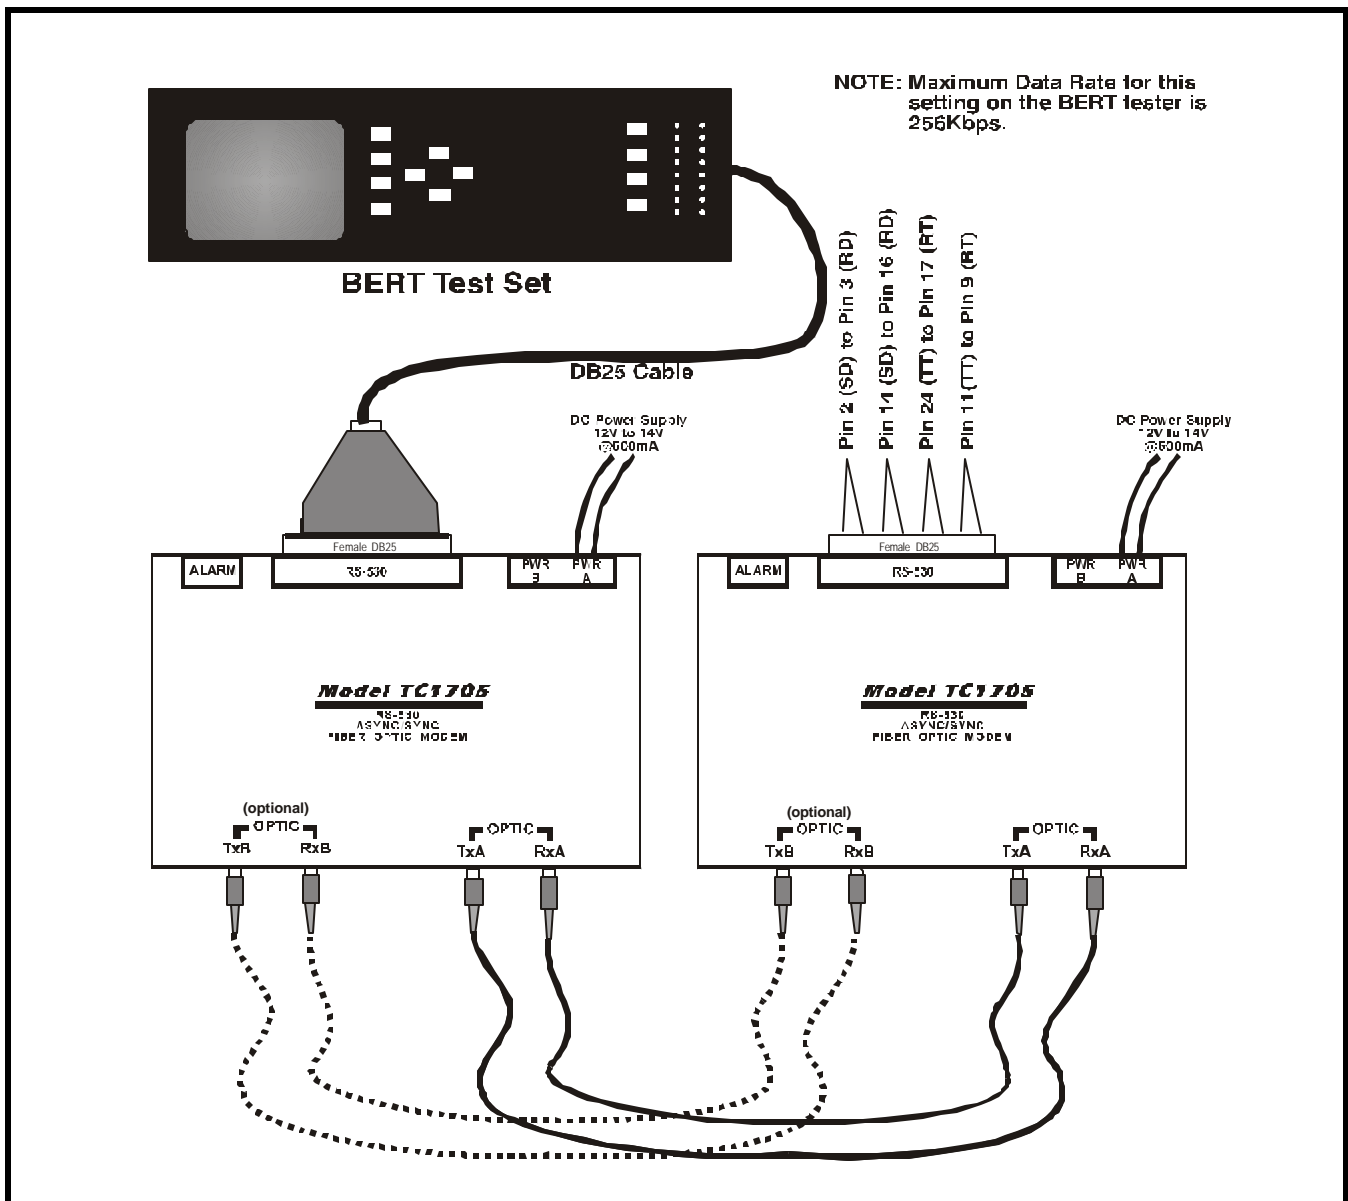

Figure 11. Remote Optic Loopback Test Connection Diagram
2. Set up the bench test as illustrated in Figure 11 on the following page.